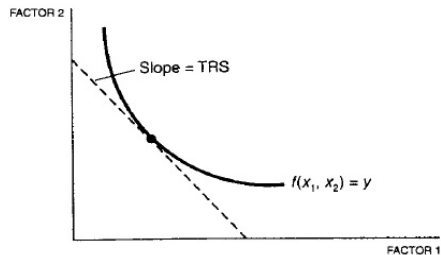

Figure 1.6
- In the two-dimensional case, the technical rate of substitution is just the slope of the isoquant: how one has to adjust x_2 to keep output constant when x_1 changes by a small amount, as depicted in Figure 1.6.